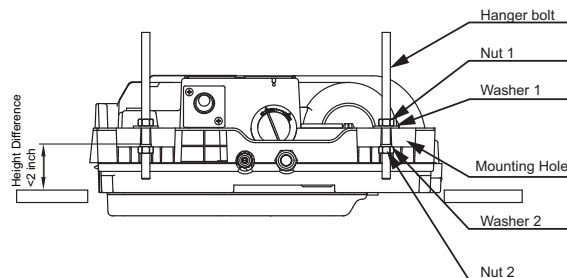

Fig. 9 —Mounting the Unit
3. Secure the unit in position with locknuts and washers on both sides of the unit bracket. Ensure that the threaded rod does not protrude more than 2 inches below the mounting brackets as shown in Fig. 9.